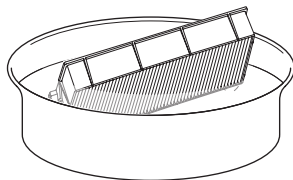

Fig. 1
**1) Wash the air filter unit. (Fig. 1)**